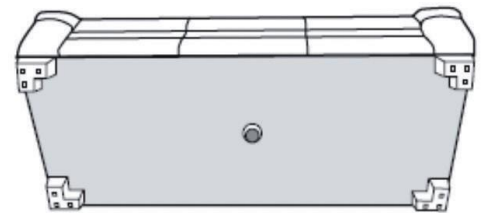

Fig 3
- The sofa feet or legs, including the supporting feet or legs are to be mounted in position as shown in the instruction sheet. The feet or legs must be mounted without fail to ensure the overall strength of sofa frame structure is not compromised to premature frame deterioration (Fig 3).
Common issue – When you receive your sofa and feel that the seat is sagging in the middle. In this case, check to make sure the support leg is installed. See fig 3 for the reference.